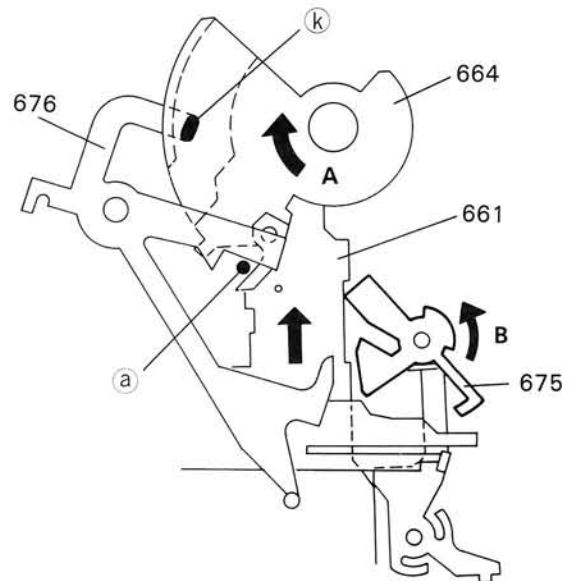

Fig. 7
By the boss (a) on the tonearm feed (658), the manual lever (675) turns in the direction of arrow B and stops at the position shown in Fig. 7.